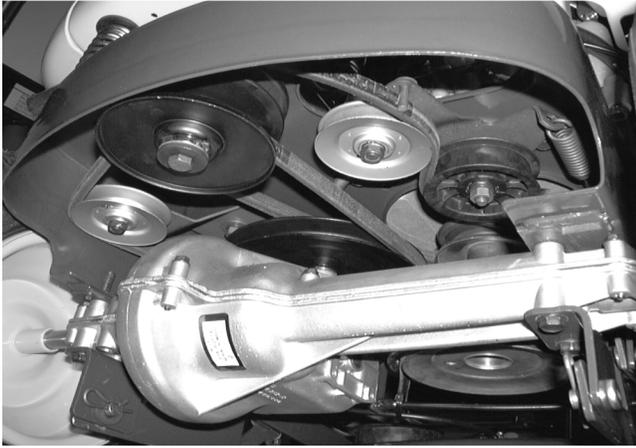

FIGURE 3.
**NOTE:** Prior to removing the upper drive belt, it is necessary to remove the lower drive belt. See figure 3.